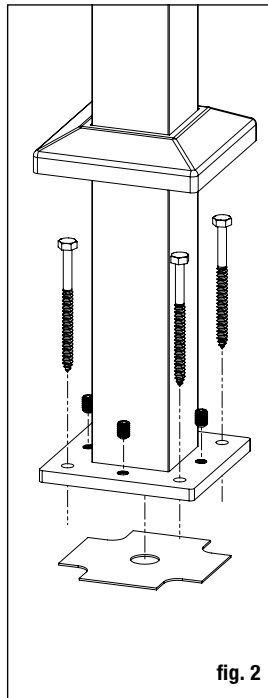

fig. 2
**Step 1** Install posts by attaching the aluminum base to the surface of the deck. Position the post so the fastener will go into the floor joist, and make sure the decking is firmly attached to the joist at the location of the posts. If necessary, use wood blocking securely attached to the joist structure as reinforcement underneath the decking where the posts are located. Fasteners that hold the post base to the surface should be able to secure to joist or reinforcement braces, not just the decking itself. Note: When installing aluminum post on top of a wood surface, screws must be lagged into at least 3" of solid wood (not including the decking). 5/4" or 1 1/2" deck boards do not provide sufficient material for a safe installation. If necessary, add additional material to the underside of the surface (fig. 2).